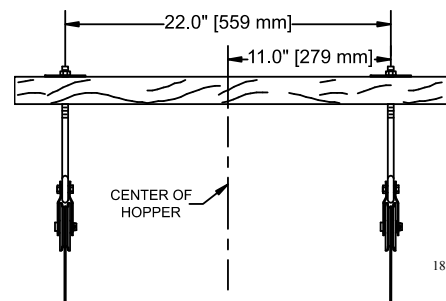

Figure 23.
8. Install two pulleys to either a 2" x 8" [50x200 mm] board that will span at least 3 rafters or a 3/8" [9.5 mm] thick steel plate welded to two pieces of angle iron that are long enough to span at least 2 rafters. Install the pulleys directly above the feeder line where the hopper is to be located. The pulleys should be spaced 22" [559mm] apart (11" [279 mm] from the center of the hopper in both directions), see **figure 23**.